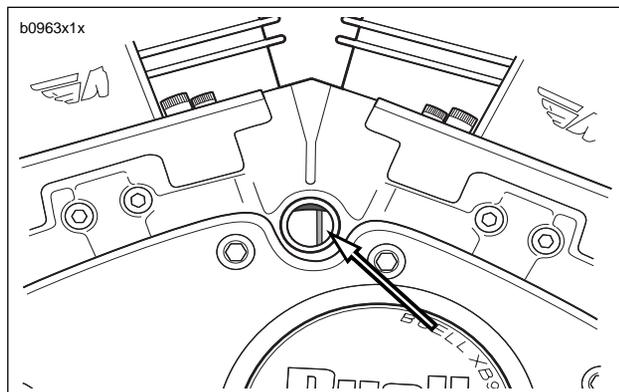

Figure 1-52. Retard Timing
4. See Figure 1-52. If timing is retarded (mark appears on right side of window) rotate timing plate clockwise.